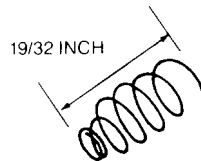

Figure 8.12A
- B. Visually inspect the loading spring. Overall free standing length should be greater than $\frac{19}{32}$ inch. (See Figure 8.12A). Look for flat spots on the spring windings. Springs that appear worn or do not meet the overall length requirements must be replaced.